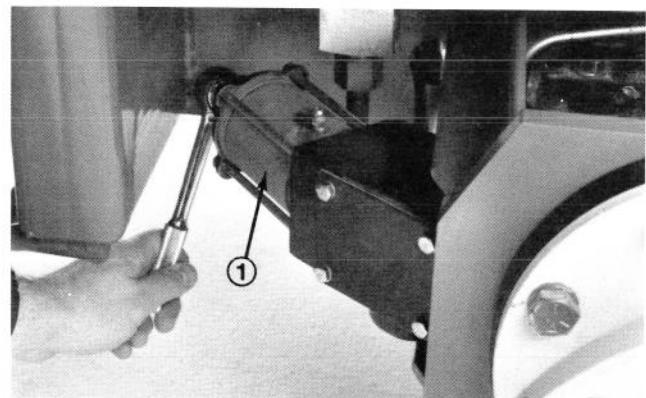

Figure 13
A. Use a 3/8 in. drive 9/16 in. deep well socket wrench to tighten adjusting nut on end of actuator until brakes are tight (Fig. 13).